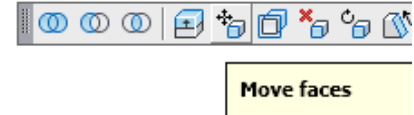

Figure Step 9A
Step 9 Click the Move Faces icon and complete the command shown below to move the face on the top of the model higher. (Figure Step 9A, 9B, 9C, and 9D)